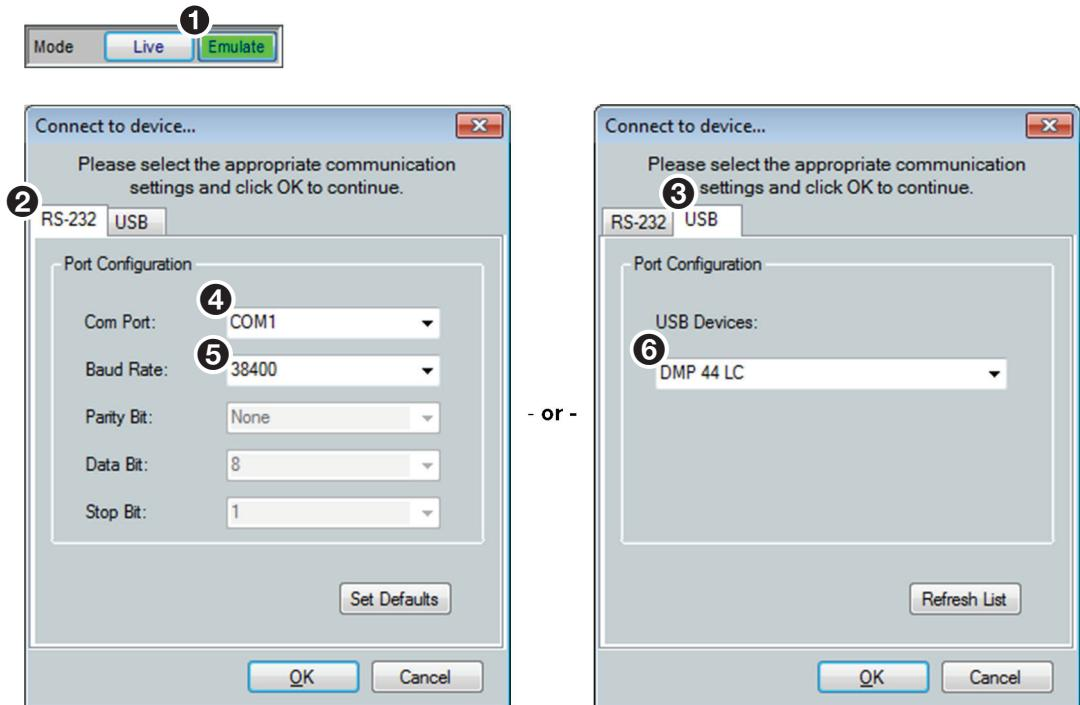

Figure 75. Selecting Live Mode with RS-232 or USB Connection
1. On the main DSP Configurator screen, click the **Live** button (see figure 75, ①). The **Connect to device...** dialog box opens.
- **RS-232** (2) for connection to the rear panel RS-232 port. Proceed to step 3.
- **USB** (3) for connection via the front panel Config port. Proceed to step 4.
- a. Click the **Com Port** drop-down menu (4) and select the PC com port connected to the rear panel RS-232 port.
- b. Check the baud rate displayed in the **Baud Rate** field (5). If the baud rate does not match the device rate, click the **Baud Rate** drop-down menu and select the desired baud rate. The default is 38400.
- c. Click **OK**.**If the USB tab (3) was selected in step 2:**
- a. Click the **USB Device** drop-down menu (6) and select **DMP 44 LC** (or **Extron USB device** if DMP 44 LC is not listed).